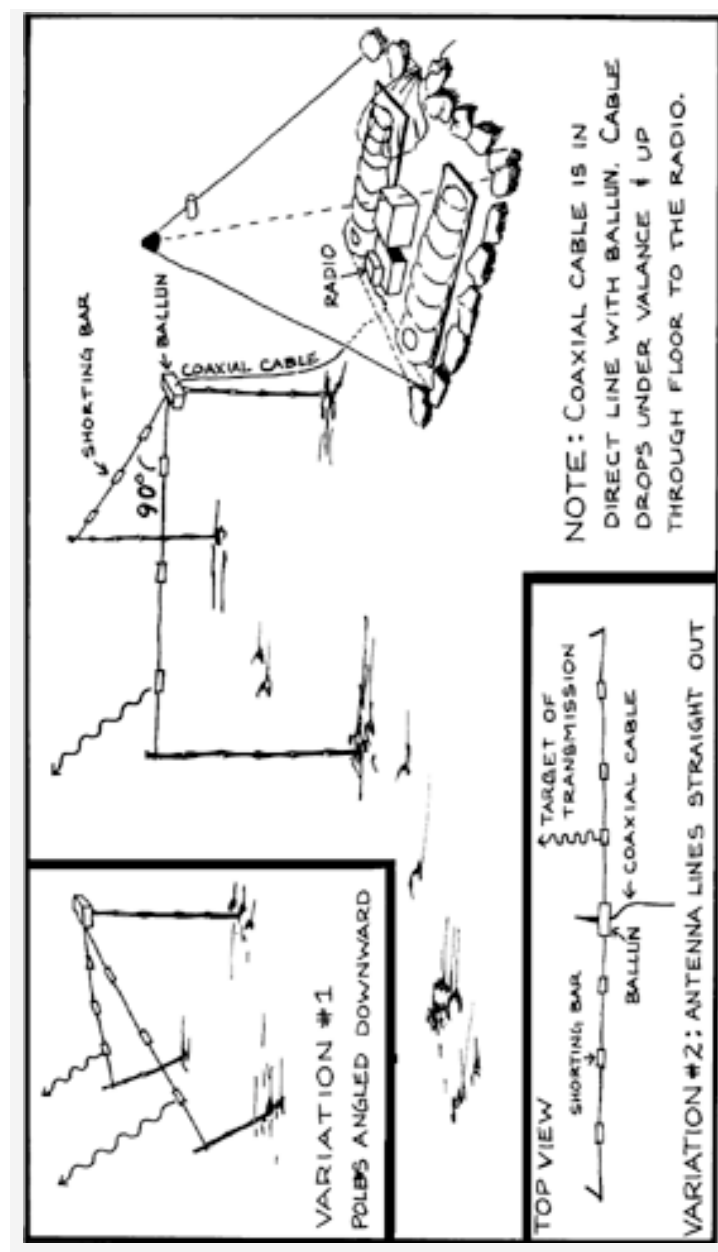

Figure 9-2: Antenna set up
1. Erect the Dipole antenna. The Balun Transformer and both ends of the dipole antenna should be mounted on bamboo poles at least chest high. The antenna should be straight out or slightly folded and the apex (the Balun Transformer) should be pointed toward the station you're contacting to achieve the best communications. (See Figure 9-2: Antenna set up)